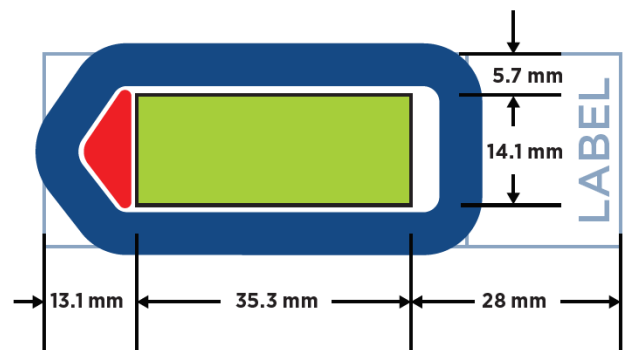

Figure 3: Slide dimensions. Measure from label edge of slide as reference point.
1. Tissue sections should be **5 µm** thick and mounted on **Superfrost Plus or BOND Plus slides**. Tissue sections must be placed in the **Scan Area** (shown in green in Figure 3) in the center of the slide and be **no larger than 35.3 mm long by 14.1 mm wide**. Mounted material should not overlap the slide gasket (shown in blue) or the tip calibration area (shown in red). If mounting multiple sections per slide, ensure that tissues are at least 2–3 mm apart and still fit within the Scan Area.